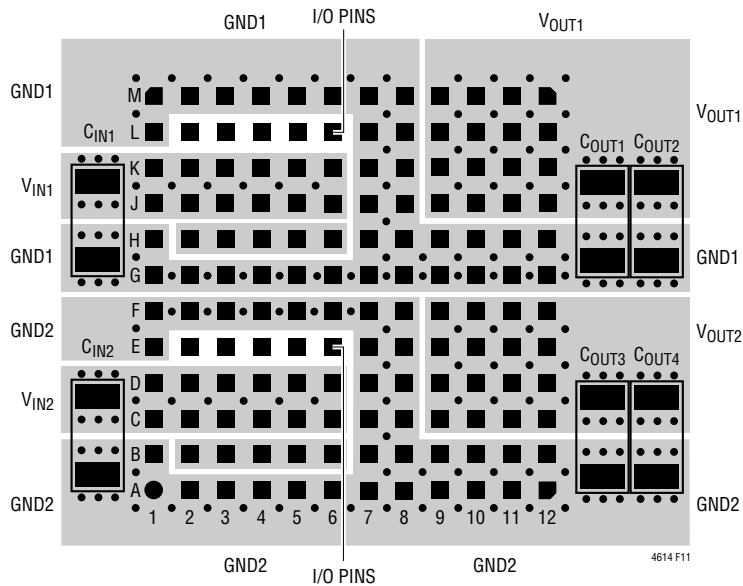

Figure 11. Recommended PCB Layout
In the above equation, η% is the estimated efficiency of the power module. The bulk capacitor can be a switcher-rated aluminum electrolytic OS-CON or polymer capacitor. If a low inductance plane is used to power the device, then no input capacitance is required. The internal 4.7μF ceramics on each channel input are typically rated for 1A of RMS ripple current up to 85°C operation. The worst-case ripple current for the 4A maximum current is 2A or less. An additional 10μF or 22μF local ceramic capacitor can be used to supplement the internal capacitor with an additional 1A to 2A ripple current rating. See Figure 11 for recommended PCB layout.
The LTM4614 switchers are designed for low output voltage ripple on each channel. The bulk output capacitors are chosen with low enough effective series resistance (ESR) to meet the output voltage ripple and transient requirements. The output capacitors can be low ESR tantalum capacitors, low ESR polymer capacitors or ceramic capacitors. The typical output capacitance range is 66μF to 100μF. Additional output filtering may be required by the system designer if further reduction of output ripple or dynamic transient spikes is required. Table 4 shows a matrix of different output voltages and output capacitors to minimize the voltage droop and overshoot during a 2A/μs transient. The table optimizes total equivalent ESR and total bulk capacitance to maximize transient performance. See Figure 11 for recommended PCB layout.
- Figure 11 gives a good example of the recommended layout.